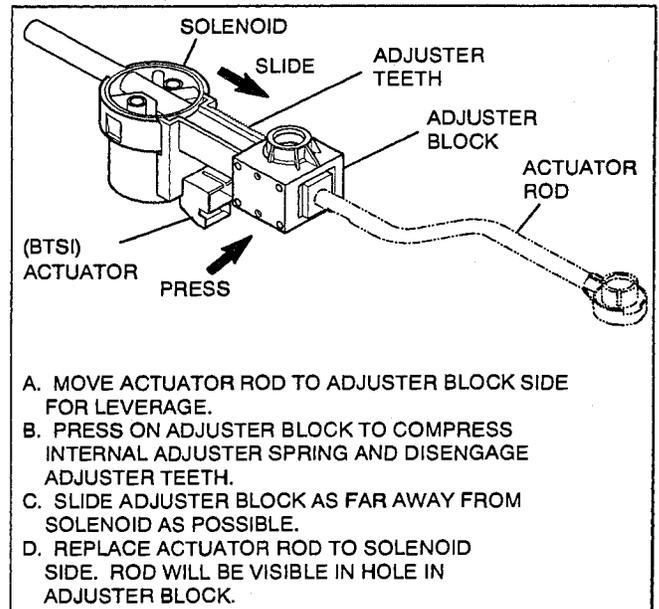

Figure 16 - Adjusting Electrical (BTSI) Actuator
- Electrical (BTSI) Actuator (61) (See Figures 16,17)